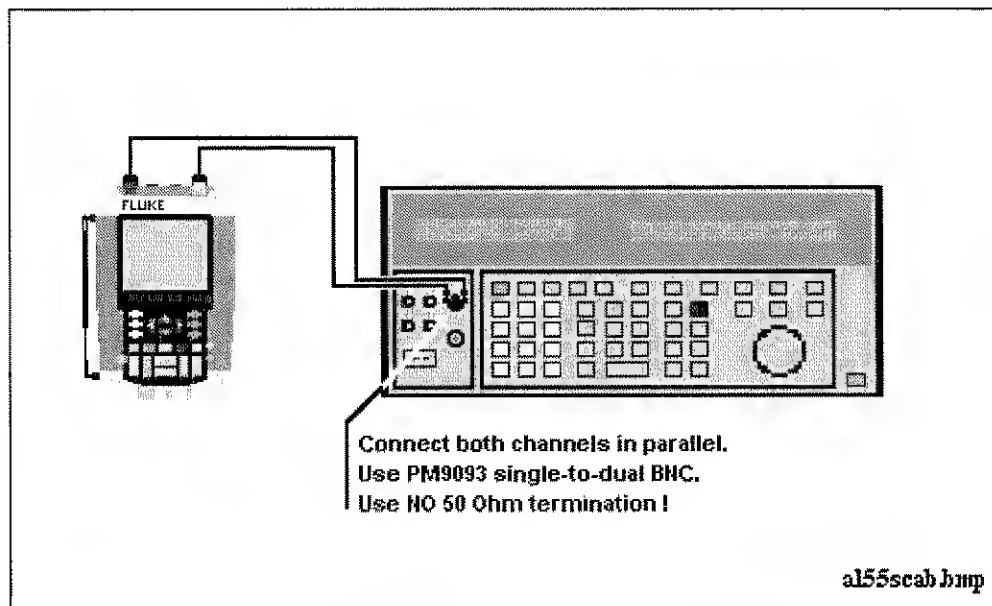

Figure 5-5. Test tool Input A&B to 5500 Scope Output
2. Connect the test tool to the 5500A as shown in Figure 5-5.